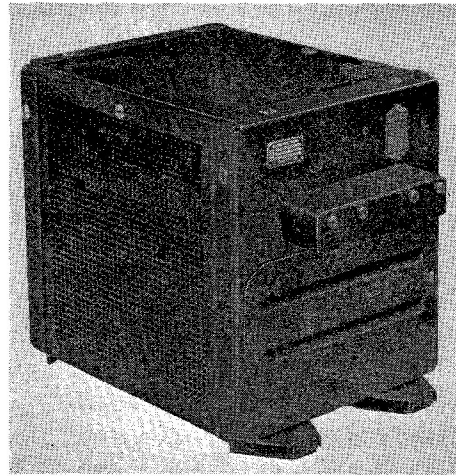

Fig. 1. General view of unit
1. The ZA6407 regulator unit (fig. 1) is used with a three-phase a.c. generator, Type 166 (Rotax N 0605), in conjunction with a compounding transformer U3001, to control the excitation current in the rotor field, thus maintaining the 104 volt and 208 volt a.c. supply for a special busbar application in the aircraft.